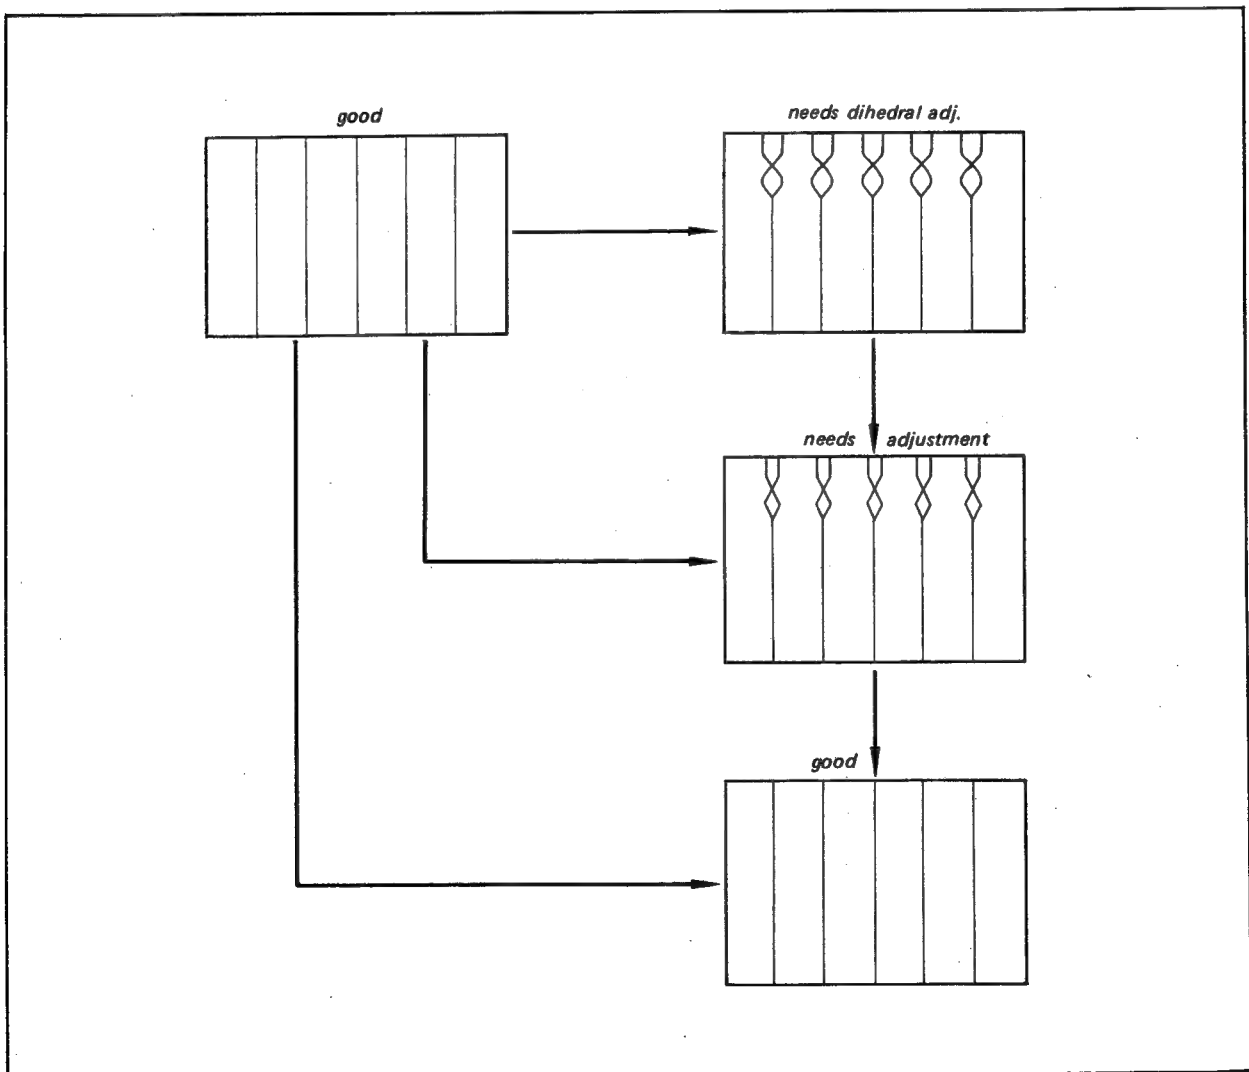

Fig. 7-10 Head dihedral adjustment
22. Observe the monitor screen, especially on the top edge, to see if there is any sync displacement as shown in Fig. 7-10. If this condition observed on the top, proceed to Step. 23.